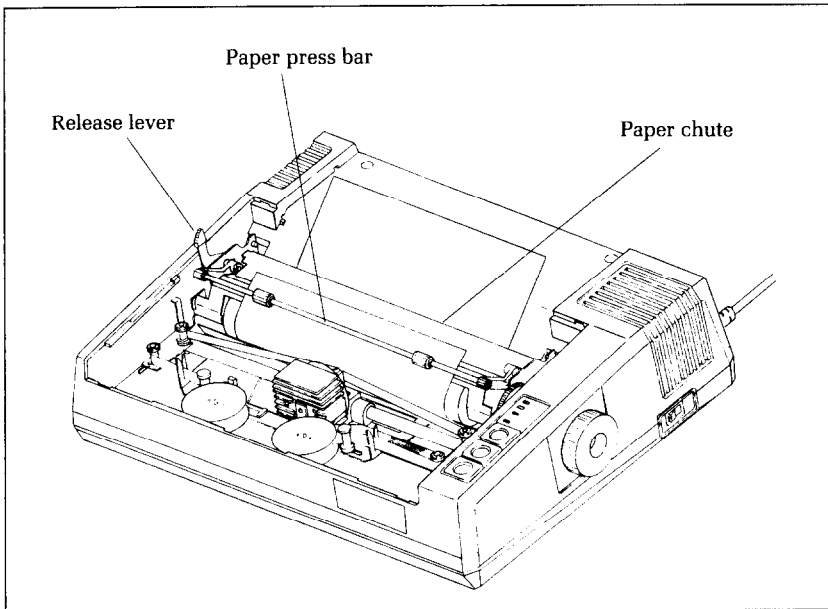

Figure 1-5. Inserting a single sheet of paper can be done "under power" with the line feed button.
4. Set the release lever in the "F" position (Figure 1-5).